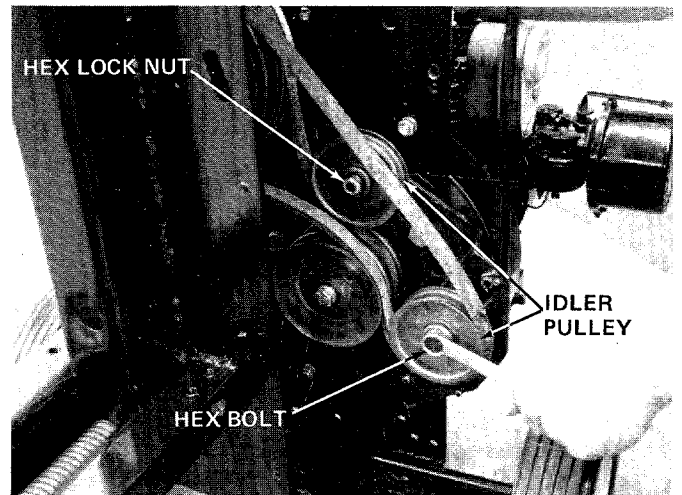

FIGURE 9
6. Remove the two idler pulleys as shown in figure 9. Two 9/16" wrenches are required.